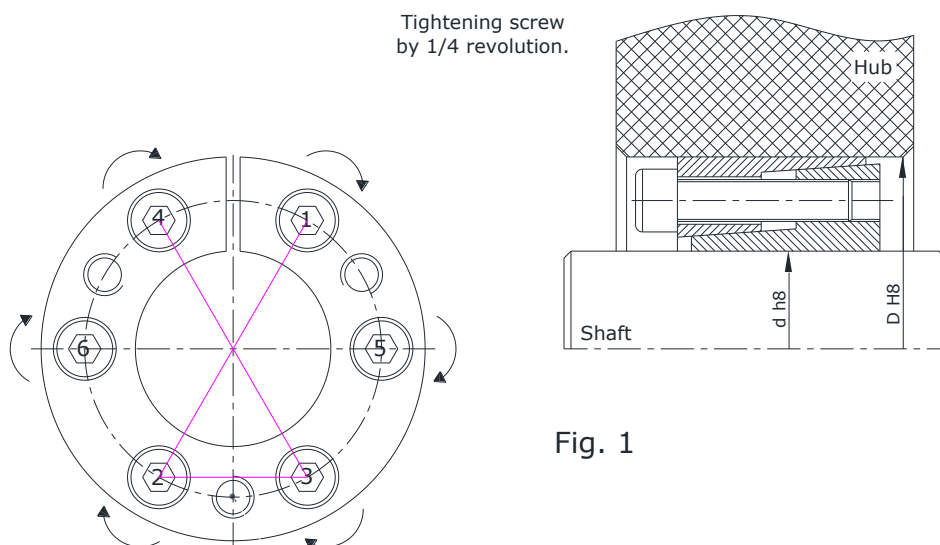

Fig. 1
- Once the axial position of locking assembly is fixed then tighten all screws one by one in diametrically opposed sequence by using torque wrench. (As shown in Fig. 1)